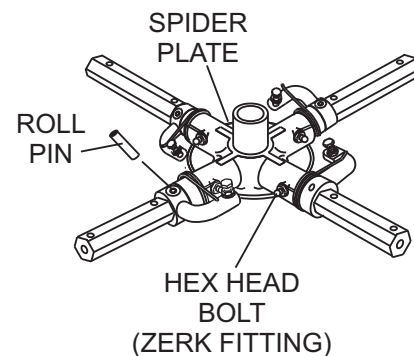

Figure 44. Removing Roll Pin and Zerk Grease Fitting
1. Each trowel arm is held in place at the spider plate by a hex head bolt (zerk grease fitting) and a roll pin. Remove both the hex head bolt and the roll pin (Figure 44) from the spider plate.